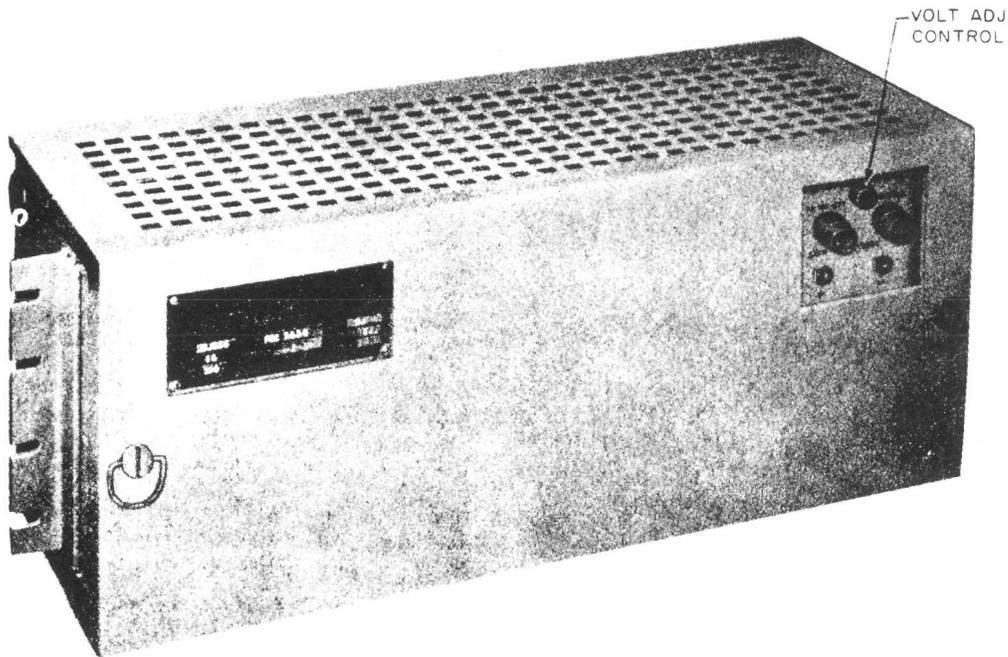

Fig. 1 - KS-15999 L2 Rectifier
**1.04** The rectifier is equipped with a removable front cover. The VOLT ADJ control, ac input fuse, and jacks for measuring the dc output voltage are accessible without removal of the cover. See Fig. 1. Inside the unit, screw-type terminals are provided for the necessary connection